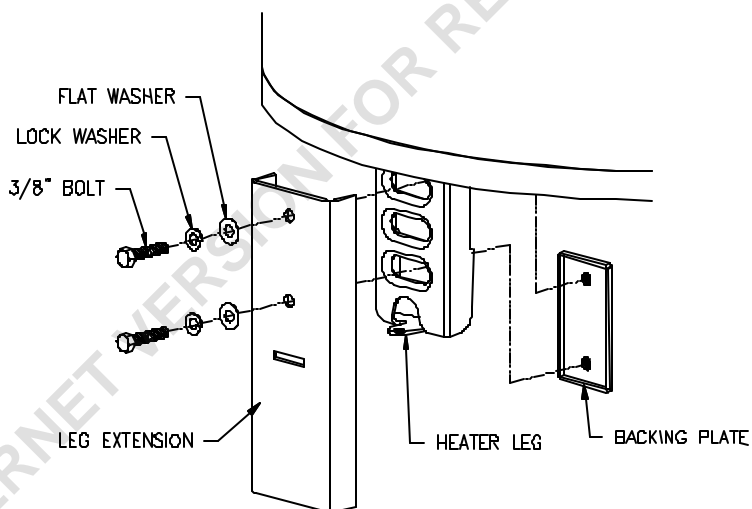

Figure 2
2. Place the backing plate on the inside of the leg (**see Figure 2**).
3. Place the leg extension on the outside of the leg (**see Figure 2**).
5. Thread the bolt and washers through the leg extension, leg, and into the backing plate, Tighten with socket and/or wrench (**see Figure 2**).